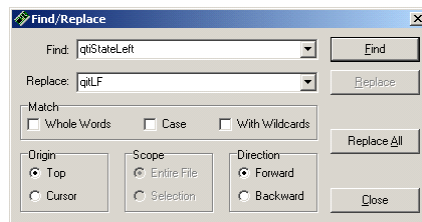

Figure 3-20
- √ Enter **qtiStateLeft** into the Find field and **qtiLF** into the replace field as shown in Figure 3-20.